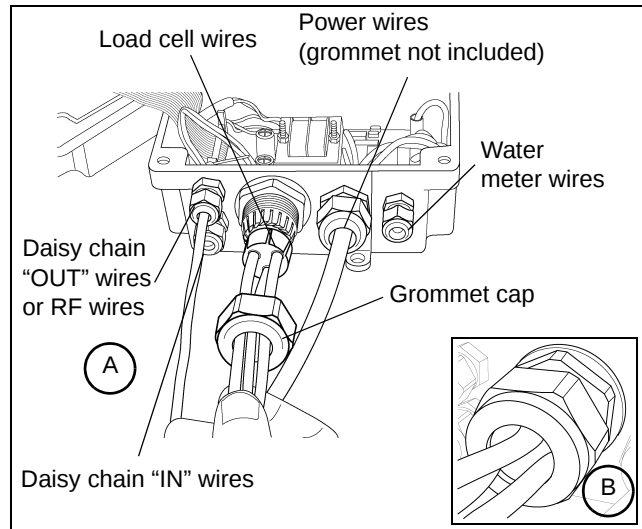

Figure 5E A) Load cell wires going into display box. B) Cap tightened onto load cell wires.
- a. Slide all load cell cables through grommet cap. (See Figure 5E-A.)
- g. Tighten grommet nut cap. (See Figure 5E-B.)
- a. Run power wire ends through water tight heyco nut cap and then into display box as shown in Figure 5E-A on Page 17.
- a. Run network "IN" cable through top left water tight nut. (See Figure 5E on Page 17.)
- a. Run network "OUT" cable through right water tight nut. (See Figure 5E on Page 17.)